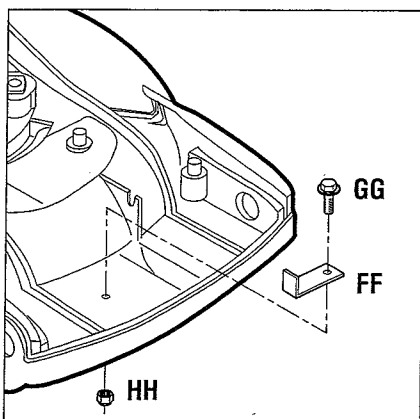

Fig. 5
- b). Position stop bracket (FF, Fig. 5) against inner deck rib. Make sure front edge of stop bracket is 1/8" away (towards engine) from axle.